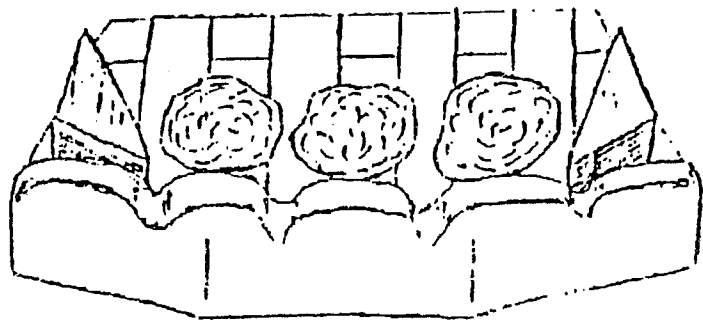

Fig. 2
1. Place 3 medium round between the simulated coal front and the support shelf with 1 triangular coal placed on either side of this row, Fig. 2.